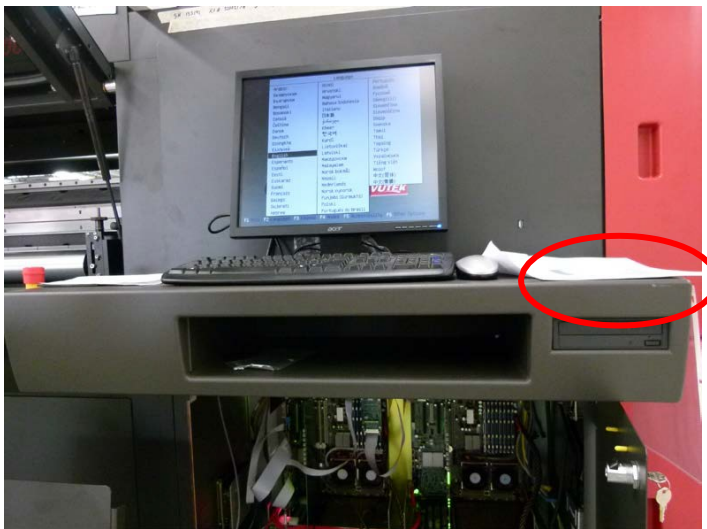

Figure 16: Operator console DVD drive
2. Insert installer disk into DVD drive in operator console, shown in **Figure 16**.